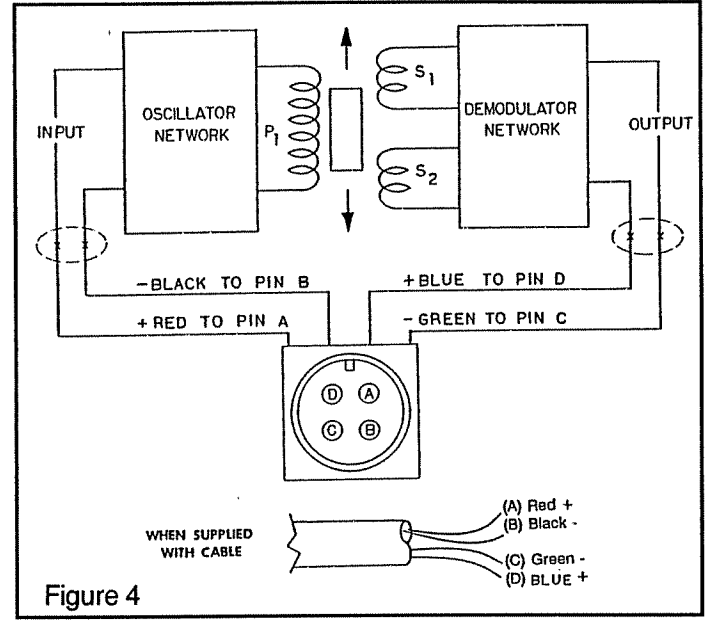

Figure 4
The electrical system consists of a Linear Variable Differential Transformer (LVDT) which converts the mechanical deflection of the Load Plate into a useful electrical output signal. (See Figure 4.) The movable core of the LVDT is mechanically coupled to the Load Plate by means of the Core Adjust Assembly. (See Figure 4.) This adjustment is factory set and is not accessible.
As illustrated in Figure 4, a DcLVDT consists of the following components:
3. Observing correct polarity, connect the positive (+) input lead to Pin A and the negative (-) input lead to Pin B. (See Figure 4.)
4. Connect the positive (+) output lead to Pin D and the negative (-) output lead to Pin C. (See Figure 4.)
2. Connect a voltmeter to Pins C and D (See Figure 4.)